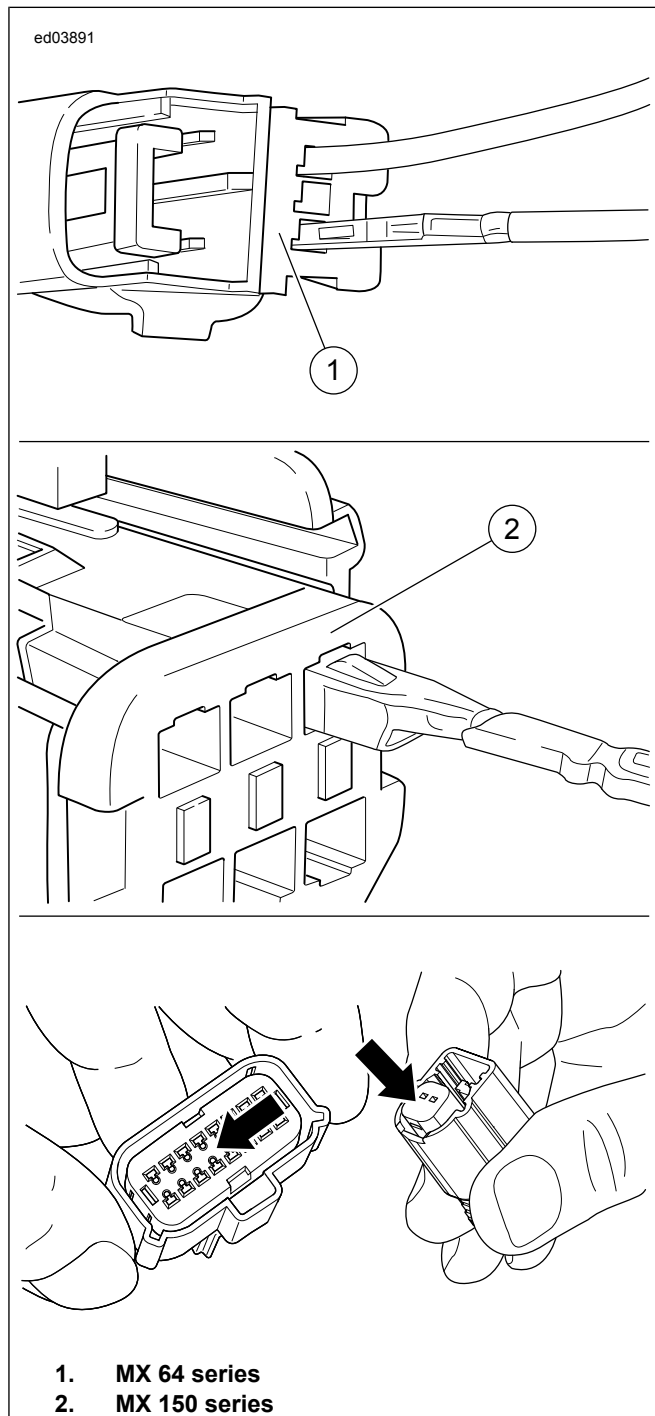

Figure B-36. Terminal Installation
1. See Figure B-36. With secondary lock unlocked, align the terminal to rear of connector.
3. See Figure B-36.